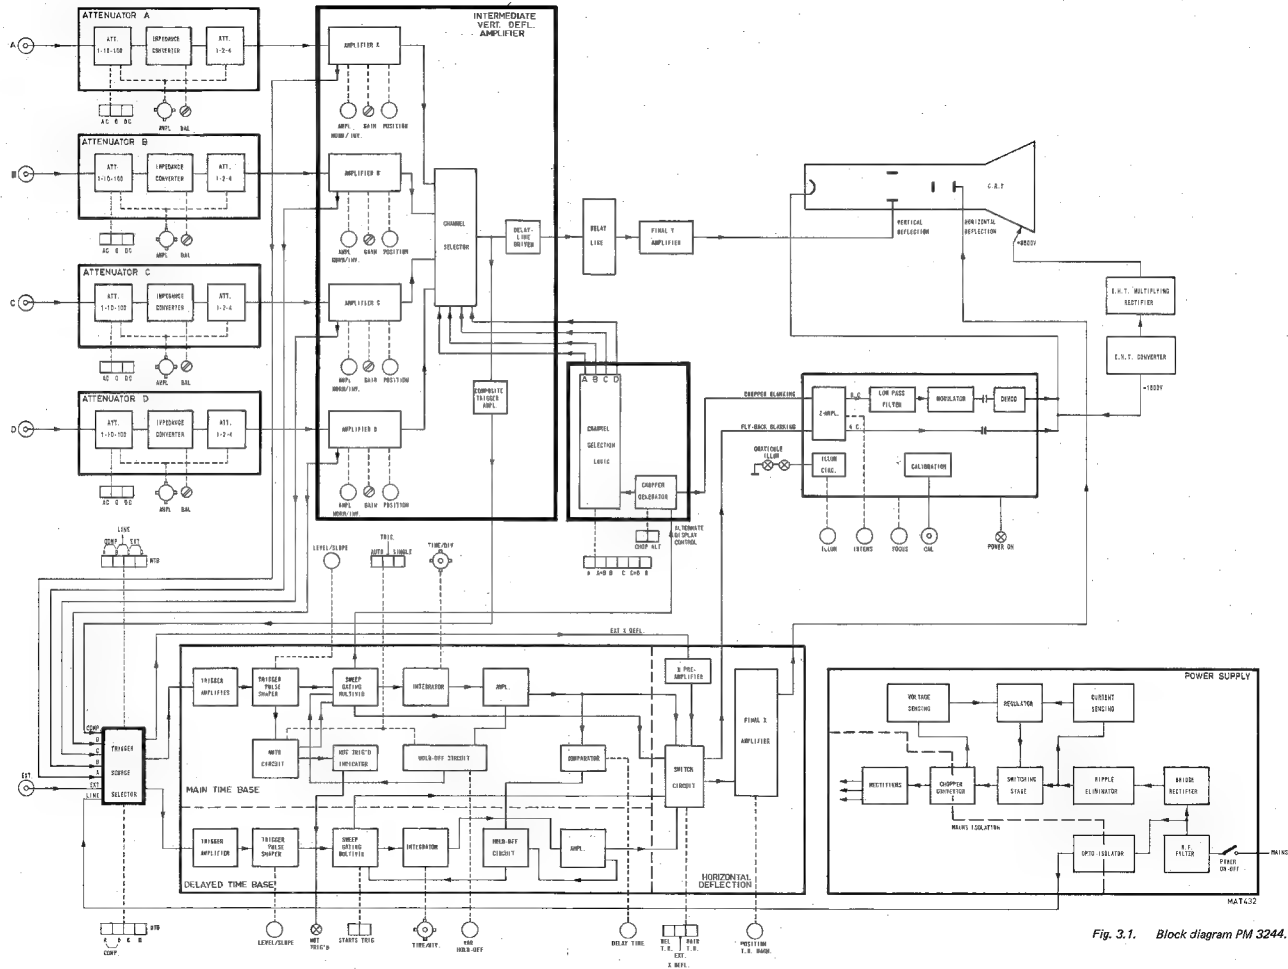

Fig. 3.1. Block diagram PM 3244.
3.1. DESCRIPTION OF THE BLOCK DIAGRAM (Fig. 3.1)